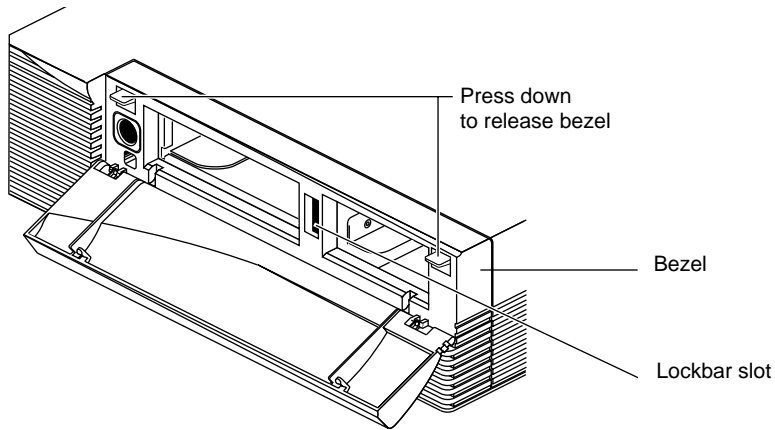

Figure 2-3 Releasing the Bezel
- Press down on the tabs on each side of the bezel, as shown in Figure 2-3.